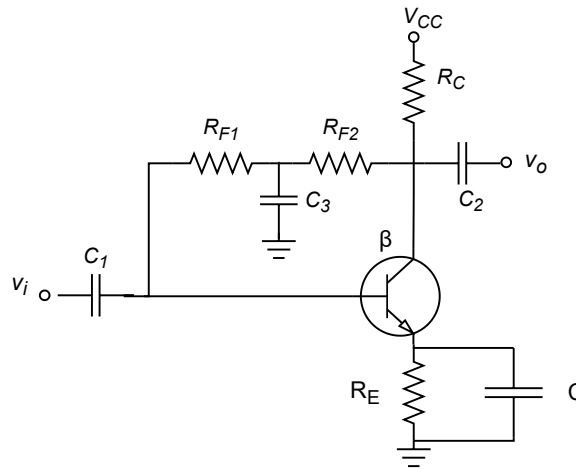

Figure 1
1. For the network shown in Figure 1, let $V_{CC} = 15V$, $\beta = 160$, $R_{F1} = 120k\Omega$, $R_{F2} = 68k\Omega$, $R_C = 3k\Omega$, $R_E = 1k\Omega$. Compute